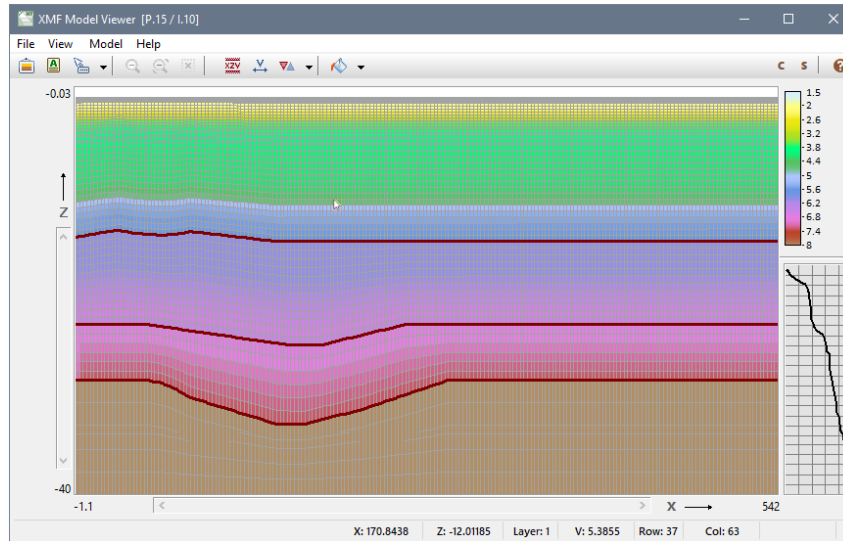

Fig. 1. Model Viewer's main window .
The main module window (fig. 1) contains three images: (1) model domain with grid and horizons; (2) velocity vertical profile in the column under the cursor; and (3) velocity color spectrum. On the snapshot, the latter is in the *continuous* mode: velocity jumps are smoothed. All images are interactive. The spectrum modes are switched in its context menu.